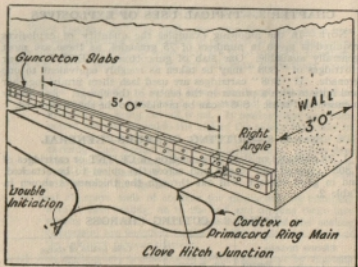

Fig 13. Cutting charge on thick masonry wall, showing points of initiation. (Fixing omitted for clarity)
- (b) Long continuous cutting charges should have points of initiation (primers fired by cordtex, etc., as already described) every 5 ft of their length (see Fig 13). Grenades, however, should be placed flat end to flat end, and every other grenade initiated by cordtex. Where possible initiation should be on the surface of the charge furthest from the face of the object attacked and at right angles to it (see Fig 13).
For walls over 9 ins and up to 18 ins thick use a continuous line of grenades placed flat end to flat end. Every other grenade should be initiated with cordtex as already described. It is emphasized again that such charges are NOT sufficient for reinforced concrete walls. Fig 13 shows a thick masonry wall with a cutting charge of four slabs of GC per foot run.